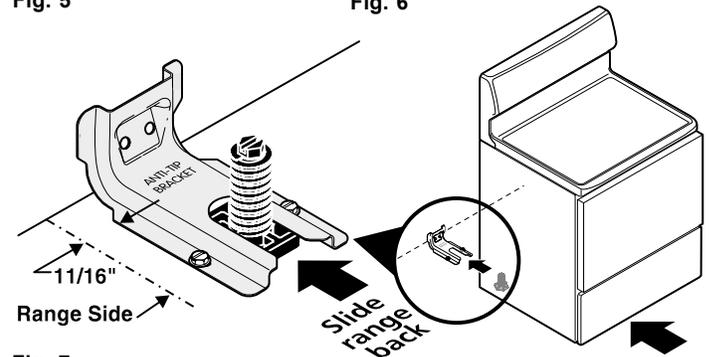

Fig. 7
**1c. Level and Position Range** - Level range by adjusting the (4) leveling legs with a wrench. **Note:** A minimum clearance of 1/8" is required between the bottom of the range and the leveling leg to allow room for the bracket. Use a spirit level to check your adjustments. Slide range back into position (See Fig. 7). Visually check that rear leveling leg is inserted into and fully secured by the Anti-Tip Bracket by removing lower panel or storage drawer. For models with a Warmer Drawer or broiler compartment, grasp the top rear edge of the range and carefully attempt to tilt it forward.
Carefully slide range into final position while inserting rear leveling leg into and FULLY ENGAGING THE ANTI-TIP BRACKET (See Fig. 7). Make sure the power cord folds into the remaining open floor area behind the range Warmer or storage drawer. Be sure to check the level of the range.